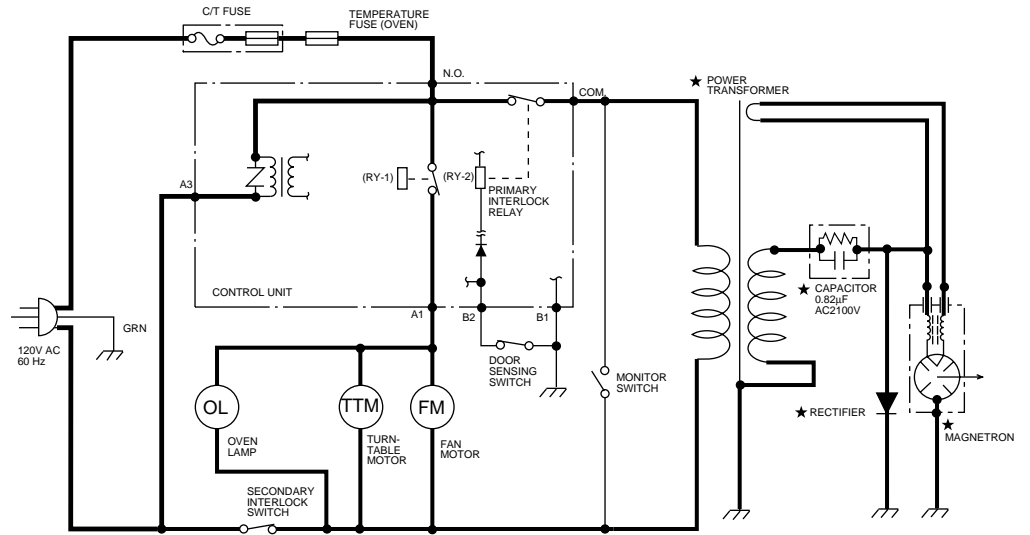

Figure O-2. Oven Schematic-Cooking Condition
1. The contacts of the relays are closed and components connected to the relays are turned on as follows. (For details, refer to Figure O-2)